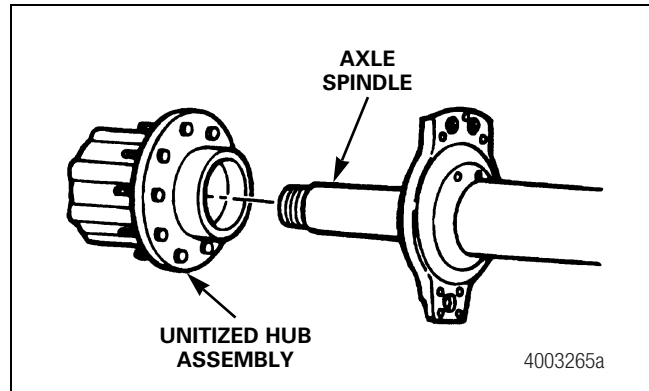

Figure 9.2
- With unitized wheel ends, these components are installed as an assembly. Figure 9.2.